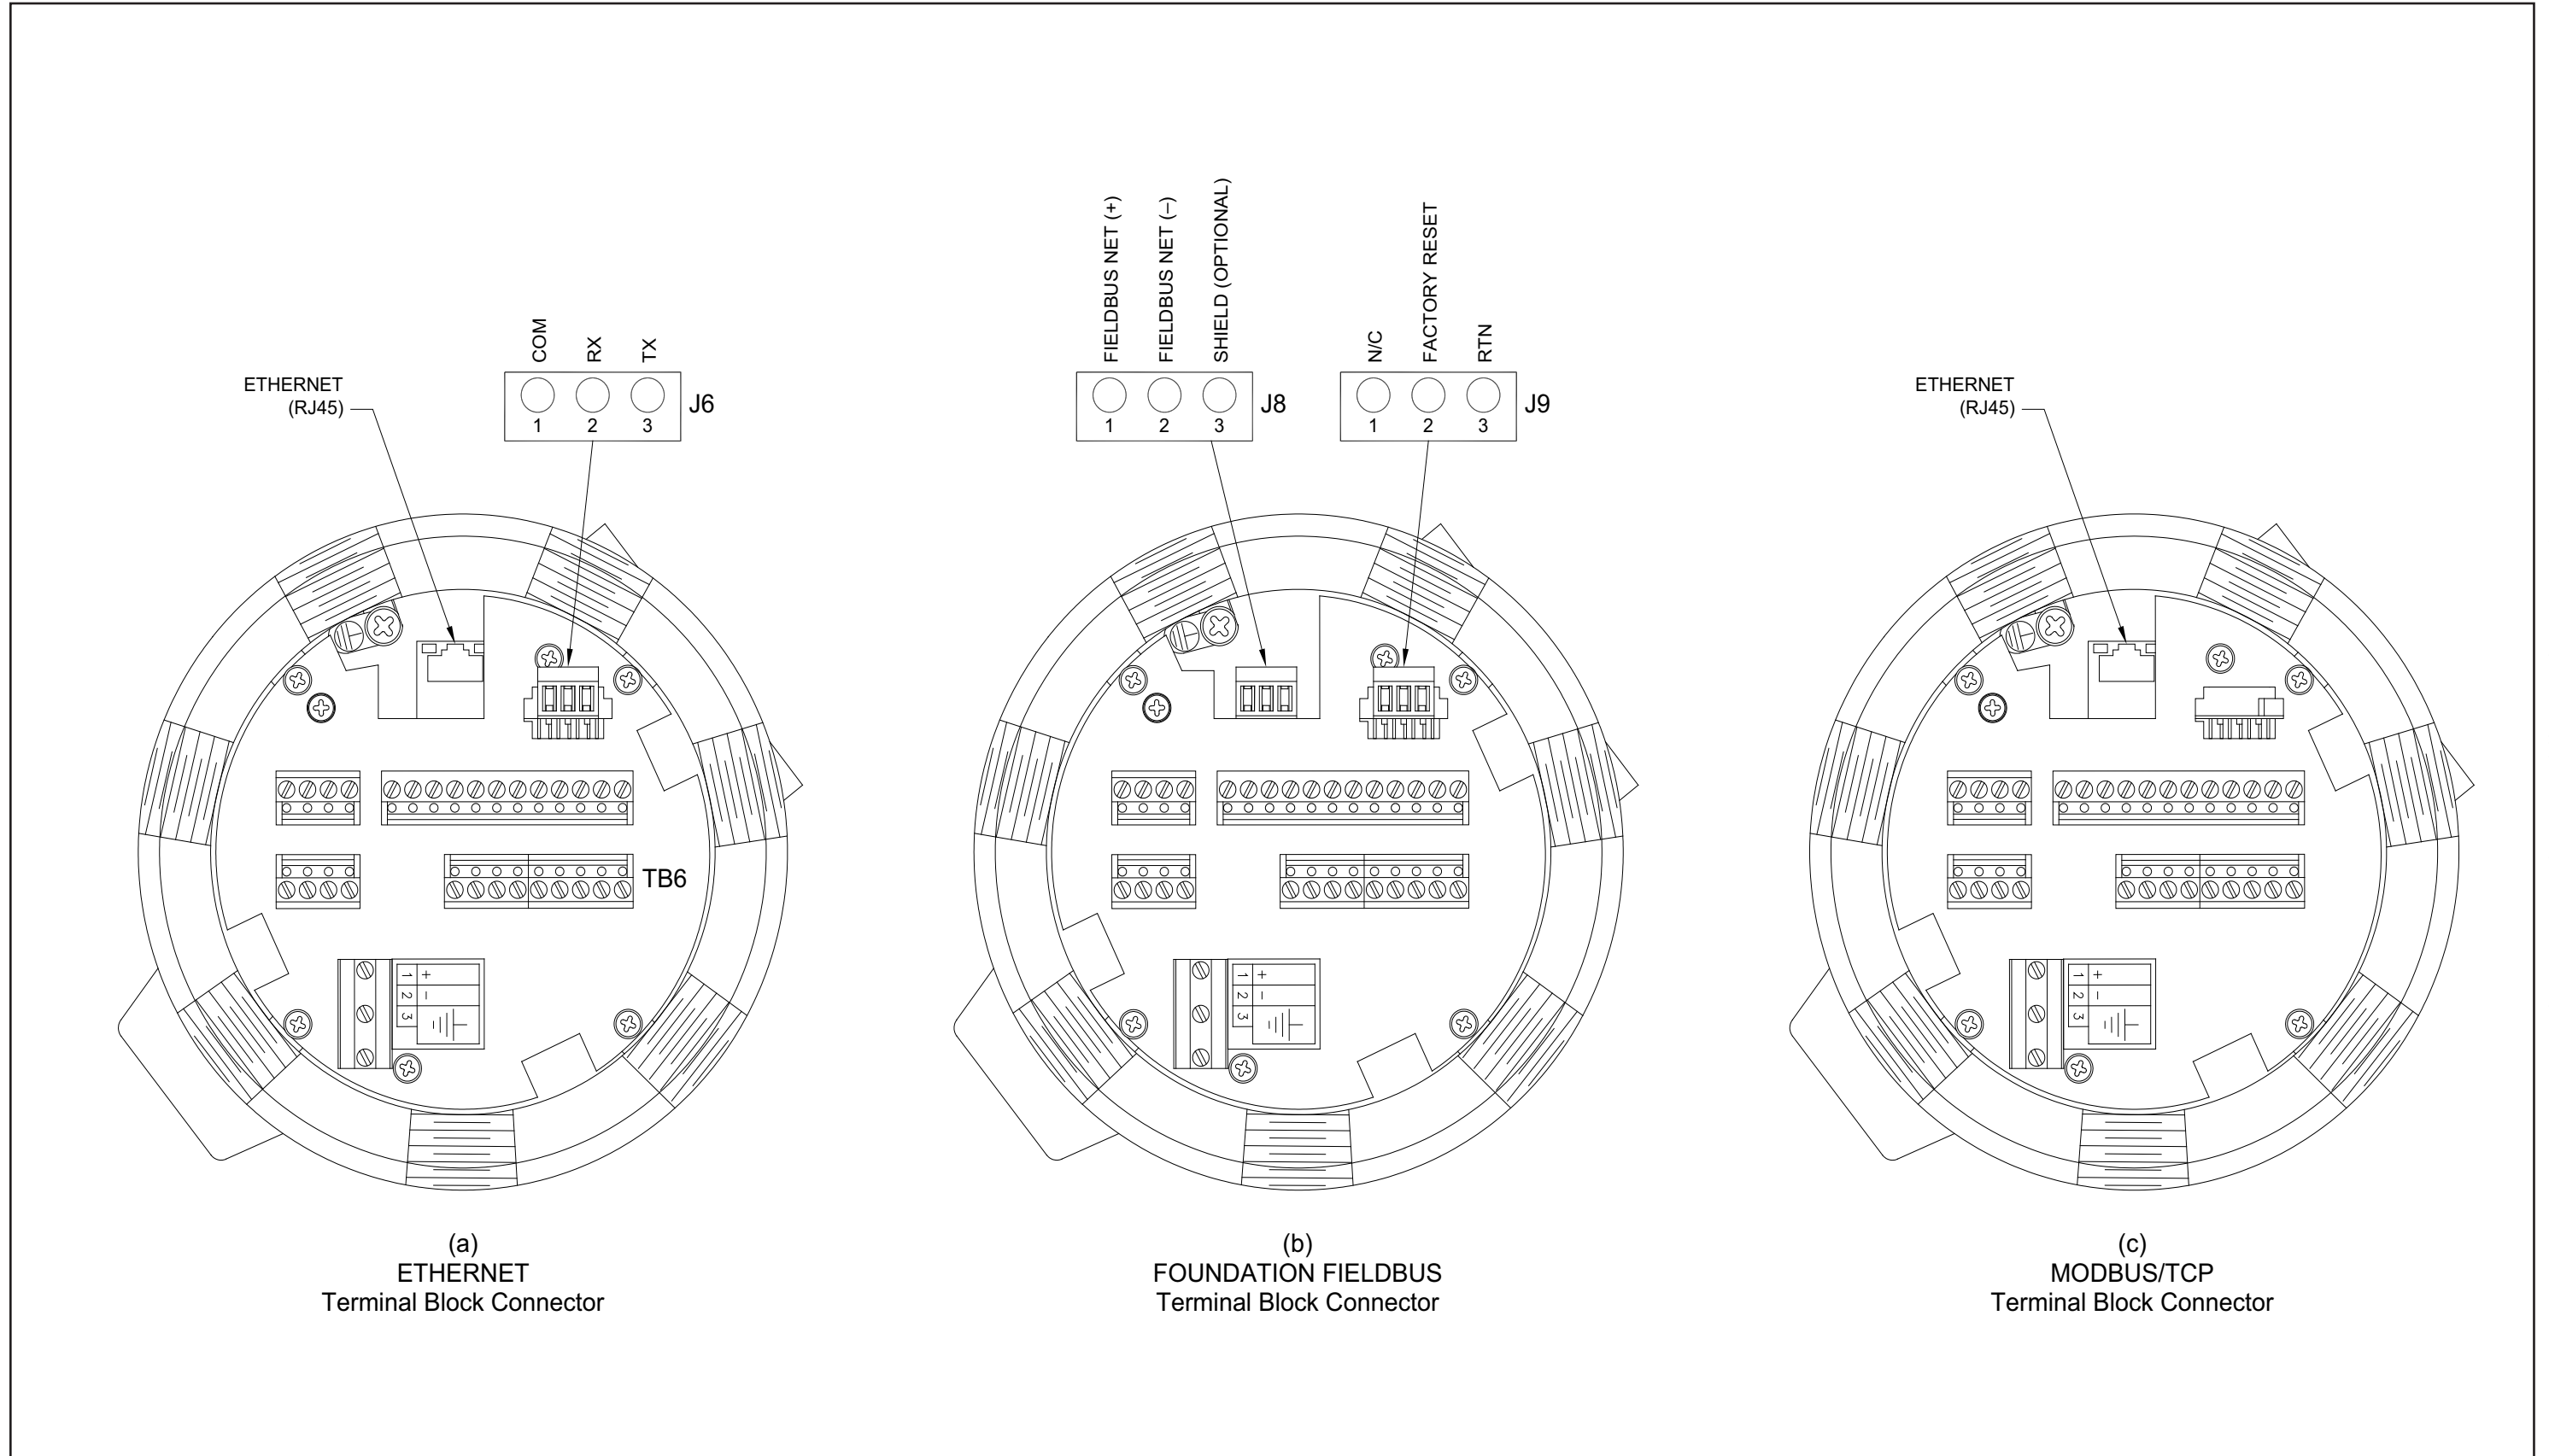

Figure 13: XGM868i Ethernet, Foundation Fieldbus and MODBUS/TCP Terminal Block Connections
Customers can also use a modified XGM868i that provides a MODBUS/TCP interface to communicate to an internal network. An optional MODBUS/TCP card with a unique MAC (IP) address (installed only in slot 2) includes an RJ45 connector. To connect the MODBUS/TCP-enabled XGM868i to the network, insert the jack of an RJ45 cable into the RJ45 connector, route the cable through one of the conduit holes using an appropriate cable clamp, and wire the other end of the cable to the Ethernet network according to the manufacturer's instructions. See Figure 13 on page 28.
A modified XGM868i can use the Ethernet interface to communicate to a local area network. An optional Ethernet card with a unique MAC (IP) address (installed only in slot 2) includes an RJ45 connector. To connect the Ethernet-enabled XGM868i to the network, insert the jack of an RJ45 cable into the RJ45 connector, route the cable through one of the conduit holes using an appropriate cable clamp, and wire the other end of the cable to the Ethernet network according to the manufacturer's instructions. An external connection is required between the Ethernet option card and the XGM868i's RS232 connector, as shown in Table 5 and Figure 13 on page 28.
To connect the Foundation Fieldbus interface to the XGM868i, make the network connections at J8, pins 1 and 2, as shown in drawing Y of Figure 13 on page 28. As an option, you can connect a shield to J8 pin 3, depending on the network wiring.